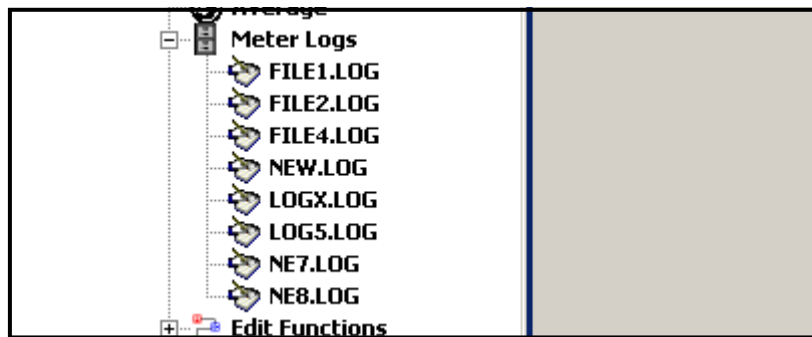

Figure 19: An Expanded Meter Logs Option
1. From the *New Meter Browser* in PanaView, expand the network tree and click on the *Meter Logs* option. If you have created one or more logs, the tree will appear similar to Figure 19.